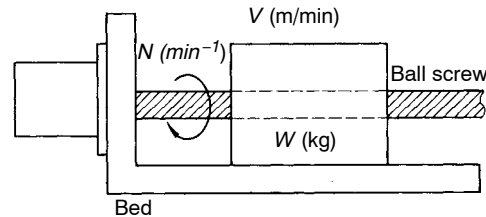

Fig 15.9 Linear Operation Output
As shown in Fig. 15.9, taking the force F (N), which is used on the speed V (m/min.) and the load, the output P_L when performing linear operations can be expressed using the following formula.